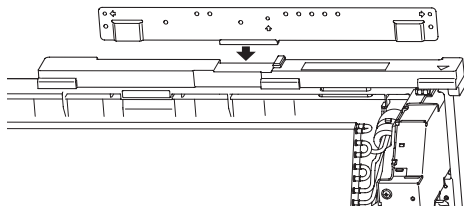

Fig. 5
- 3) Set the center hook of the installation plate ② on the center dented part of the spacer. (Fig. 5)